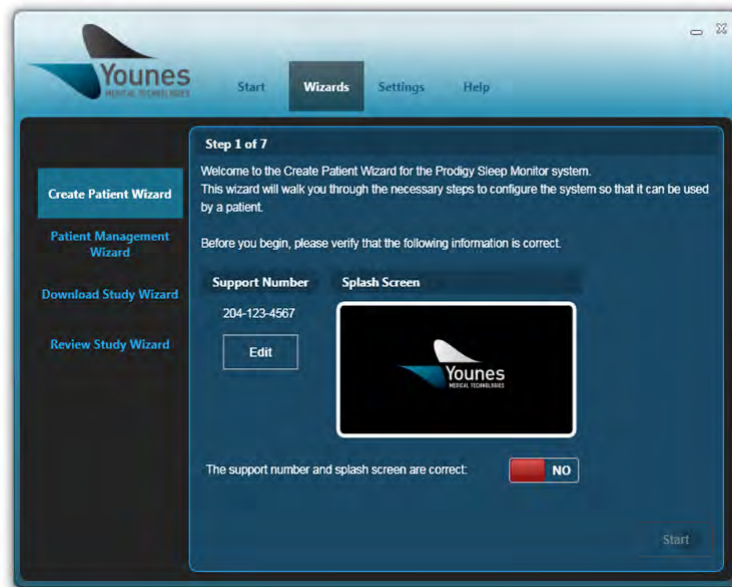
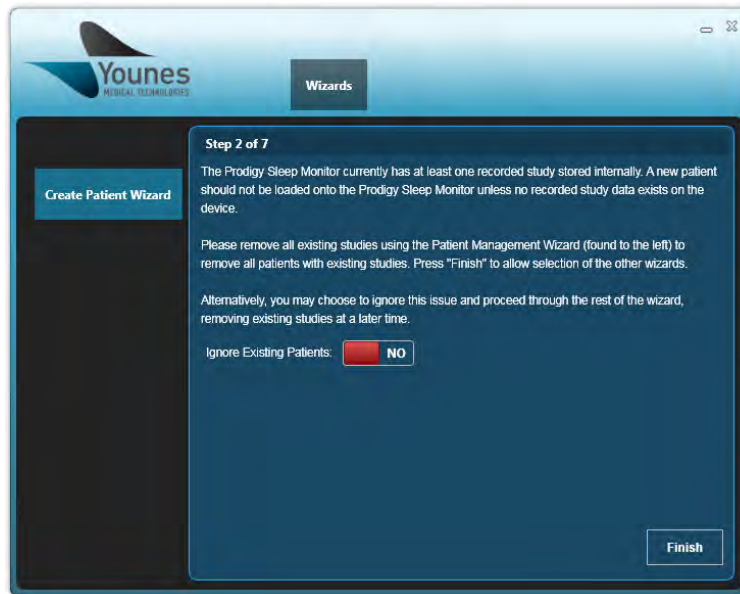

Figure 115 – Windows PC Prodigy Application Introduction Screen With Updated Support Number (Create Patient Wizard)
Figure 117 – Windows PC Prodigy Application Do Not Ignore Existing Patients Screen (Create Patient Wizard)
Tap on the dots as they appear on the Prodigy Sleep Monitor Screen. When there are no dots left to tap, click “Wizards” on the Windows PC Prodigy application screen. The screen shall appear as shown in Figure 115.
10. If at least one recorded study is stored internally, the screen shown in Figure 117 will be displayed. If you wish to ignore the warning on the screen and proceed with adding a patient, click the “No” button. If you do not wish to proceed, click “Finish” and you will be directed back to the screen shown in Figure 115.